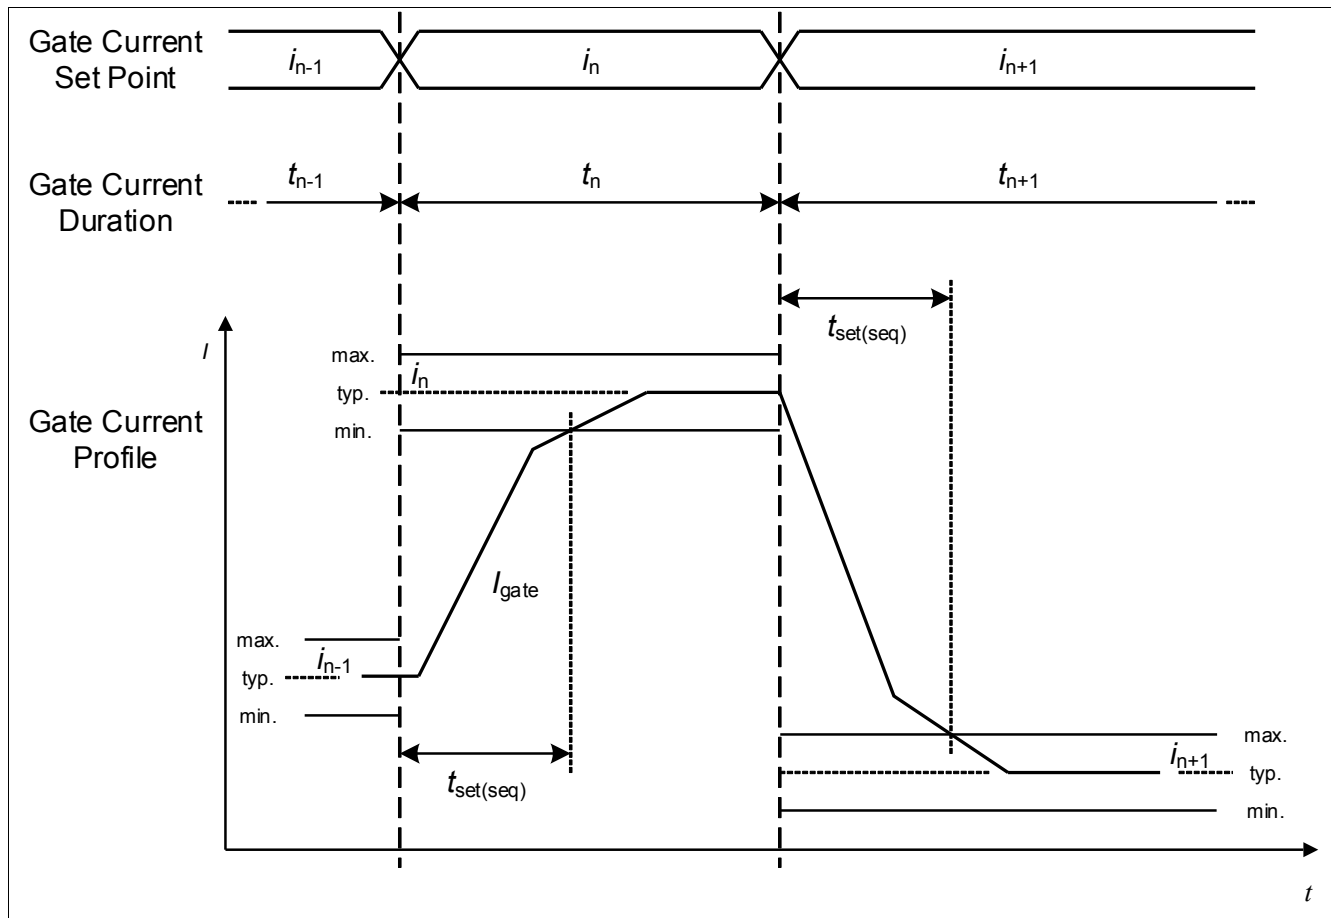

Figure 38 Gate current settling time
- At the transition between two gate current set points the actual gate driver output current settles within $t_{\text{set}(\text{seq})}$ to the new gate current set point (see Figure 38).